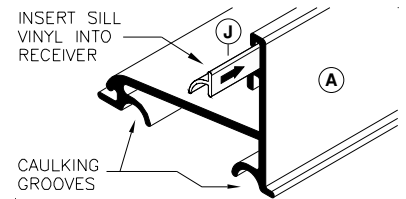

figure 2
2. Slide Sill Vinyl Seal (J) into the Sill's receiver as shown in figure 2. Run the Vinyl the full length of the Sill . . . then trim any excess.
4. Turn the Sill over and apply a bead of caulking the full length of the caulking grooves, see figure 2. With high lip toward exterior of enclosure, position Sill at center of shower curb. Temporarily tape Sill to shower curb to prevent movement.